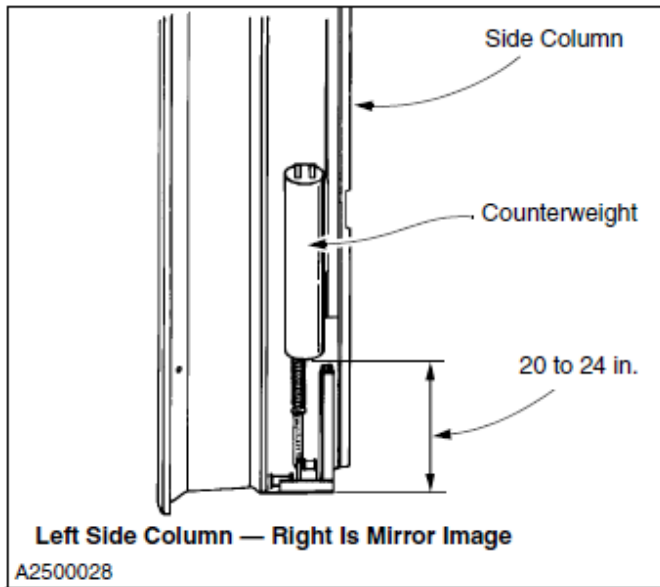

Figure 31
3. Inspect the counterweight straps for stretch. With the door in the full-open position, the counterweights will hang at their lowest point in the side column. The distance from the bottom of the counterweight to the base of the side column should measure 20 to 24 in. (See Figure 31)
4. If a strap has stretched to the point where the counterweight is not in the position as shown in Figure 31, reposition the counterweight by adjusting the strap. (See "COUNTERWEIGHT STRAP ADJUSTMENT" on page 23)